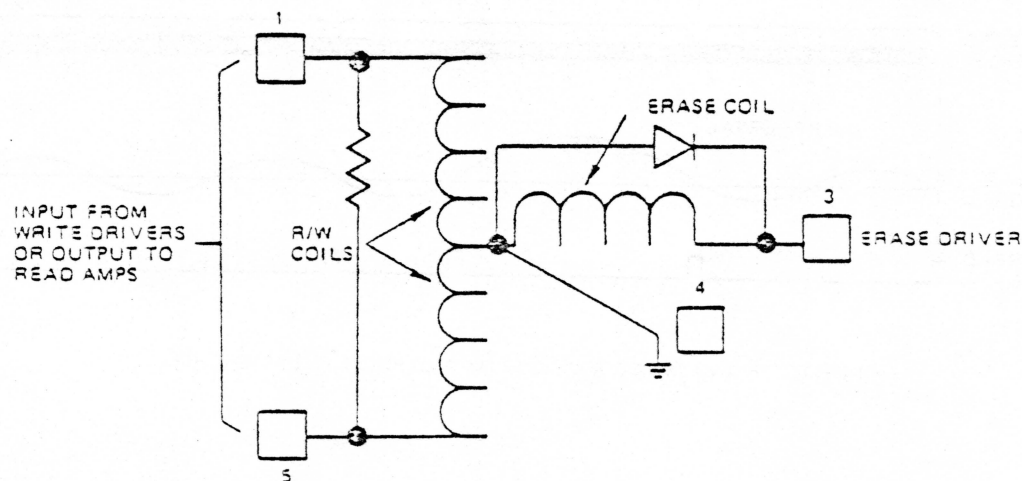

FIGURE 23. READ/WRITE HEAD
3.1 The read/write head contains three coils. Two read-write coils are wound on a single core, center tapped and one erase coil is wound on a yoke that spans the track being written. The read-write and erase coils are connected as shown on Figure 23.